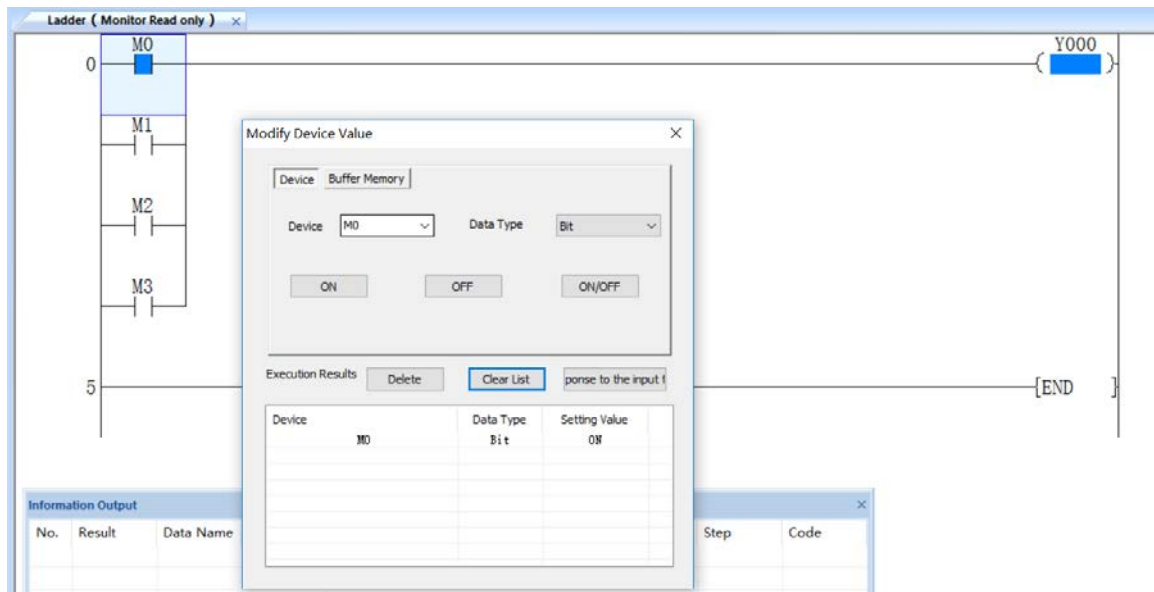

Figure 2-29
- 7) After setting the value, users can view the program running result, as Figure 2-29 shows.